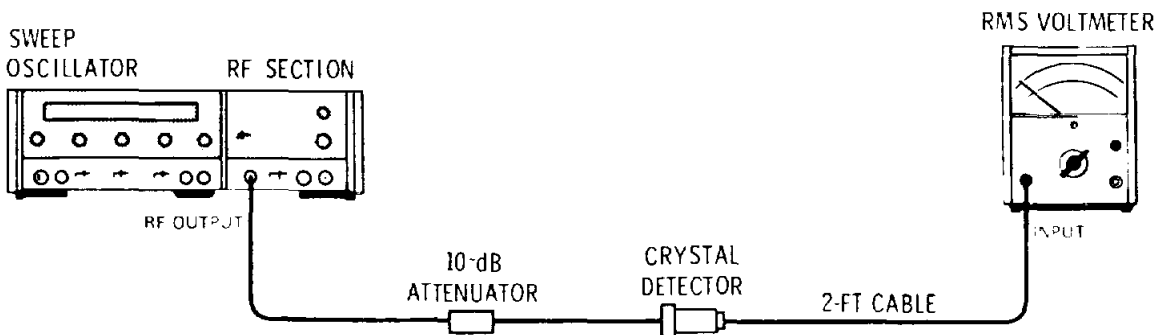

Figure 4-8. Residual AM Test Setup
- a. Connect equipment as shown in Figure 4-8.